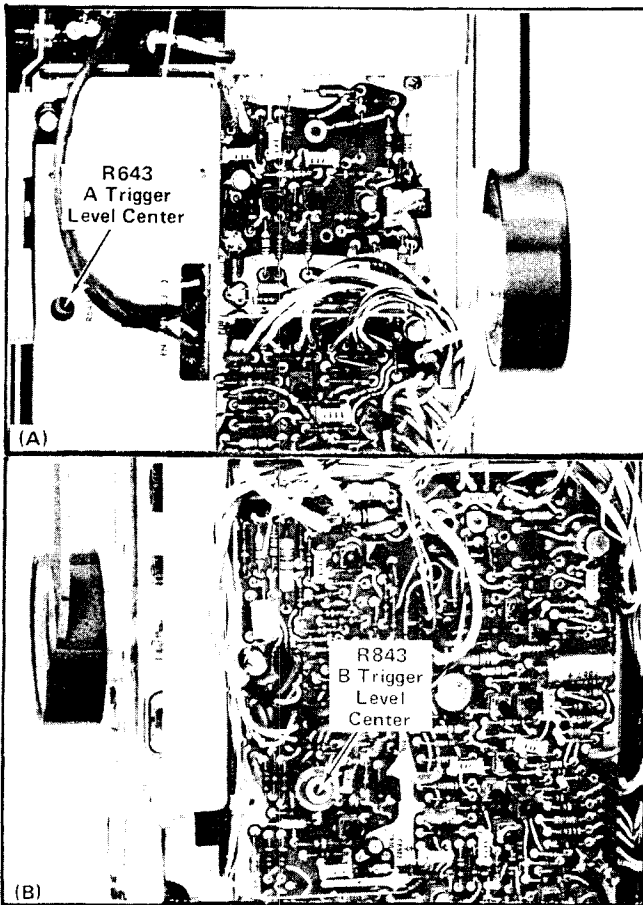

Fig. 5-14. (A) Location of A Trigger Level Center adjustment (A Sweep circuit board). (B) Location of B Trigger Level Center Adjustment (B Sweep circuit board).
f. ADJUST—A Trigger Level Centering adjustment R643 (see Fig. 5-14) for a stable display.
- j. ADJUST—B Trigger Level Centering adjustment R843 (see Fig. 5-14) for a stable display.